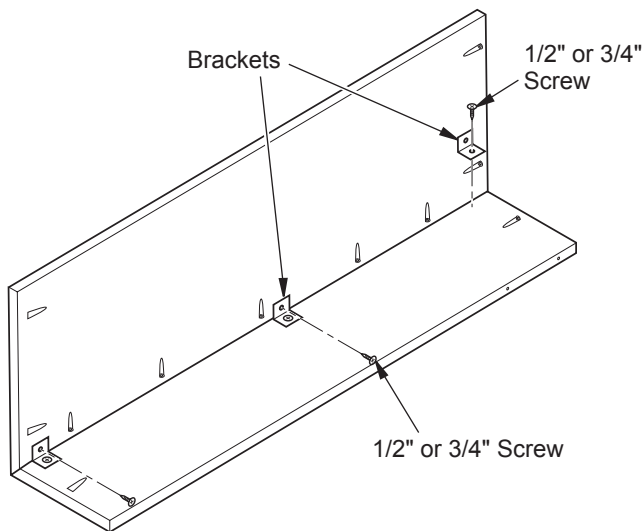

Figure 2 - Attaching Brackets
2. Each leg assembly will use 3 brackets for stability. Your bracket hardware kit will contain either 1/2" or 3/4" screws. Using two 1/2" or 3/4" screws, install a bracket in the center of each leg assembly and one at each end within 1" of but not over the last pocket hole (see Figure 2).